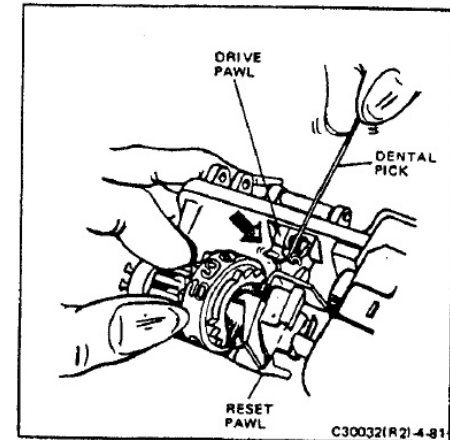

FIGURE 4-81 HOLDING DRIVE PAWL DURING COUNTER INSTALLATION
- Holding the counter as shown in Figure 4-81, guide the flat tongue of the reset pawl into the forked end of the reset pawl spring in the film compartment. Simultaneously, rotate the drive pawl (using a dental pick) so that it enters the cavity in the inner frame.